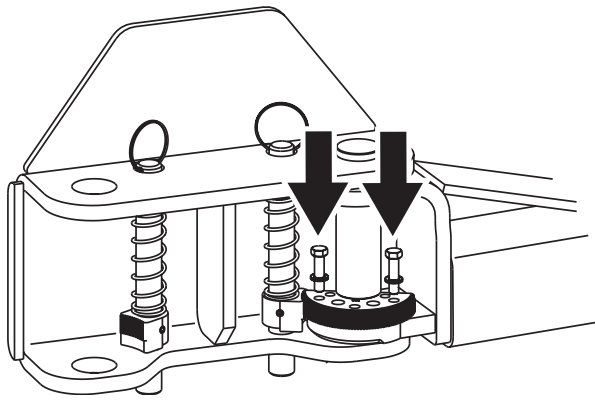
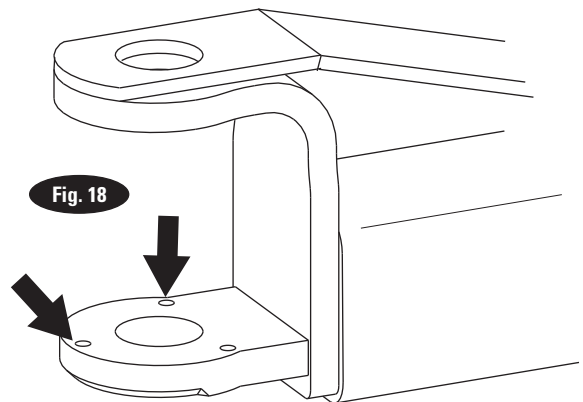
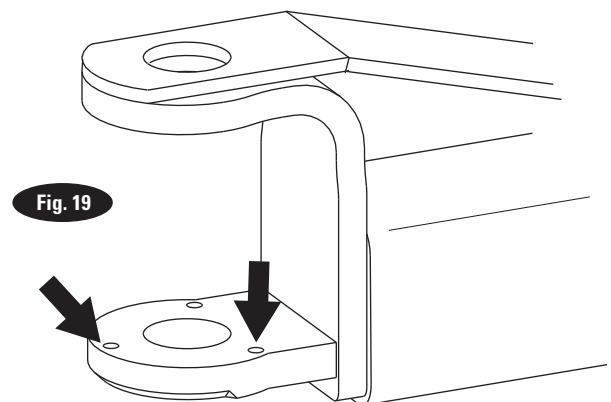

Fig. 17c
Fig. 18
Fig. 19
Then, install the (2) 3/8" -16NC x 1-1/2" HHCS (8 total for all 4 arms) and 3/8" Spring Lockwashers into the gear and arm, but do not tighten. Reference Fig. 17c, Fig. 18, and Fig. 19.